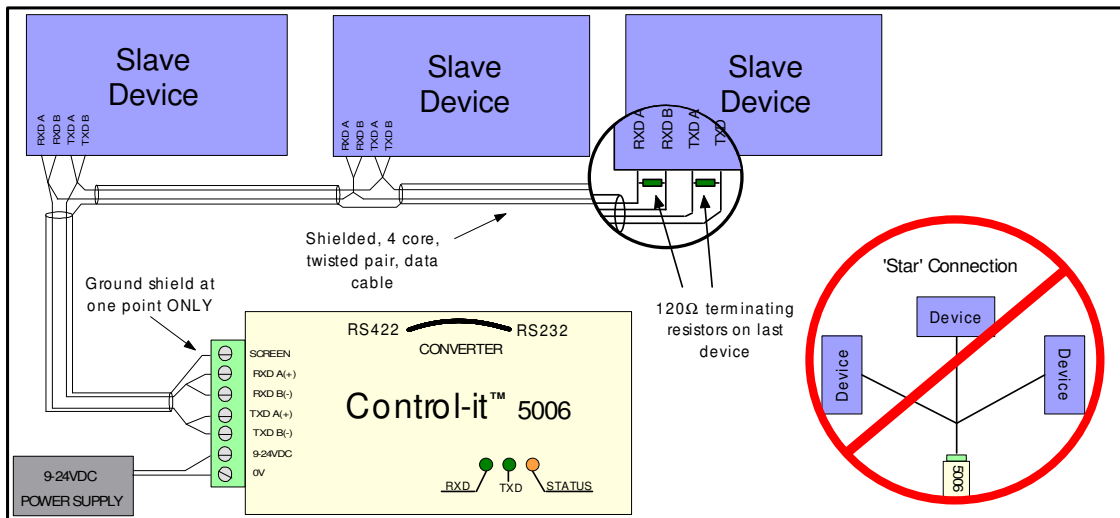

Figure 4 – Connection of a multi-drop network in 'Daisy-chain' configuration considerations.
1. Always connected devices in 'daisy-chain', as shown in figure 4, with each device connected in a row. Never connect devices in a 'star', as each branch will create unwanted reflections, leading to data errors.
NB If a converter is not used with the last device, 120Ω resistors must be placed across the TXD and RXD lines as in figure 4. Refer to **Installation** (page 6) for details.